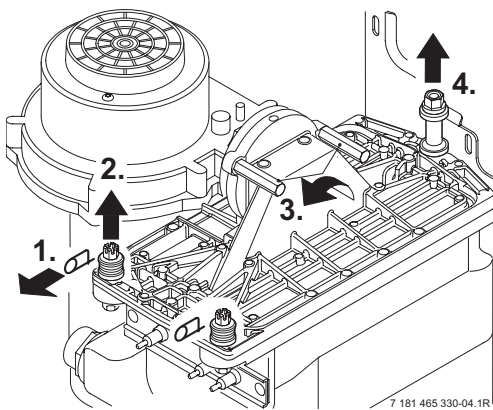

Fig. 51
- ▶ Remove the clips (1.) and unscrew the two bolts (2.). Refer to fig. 51.